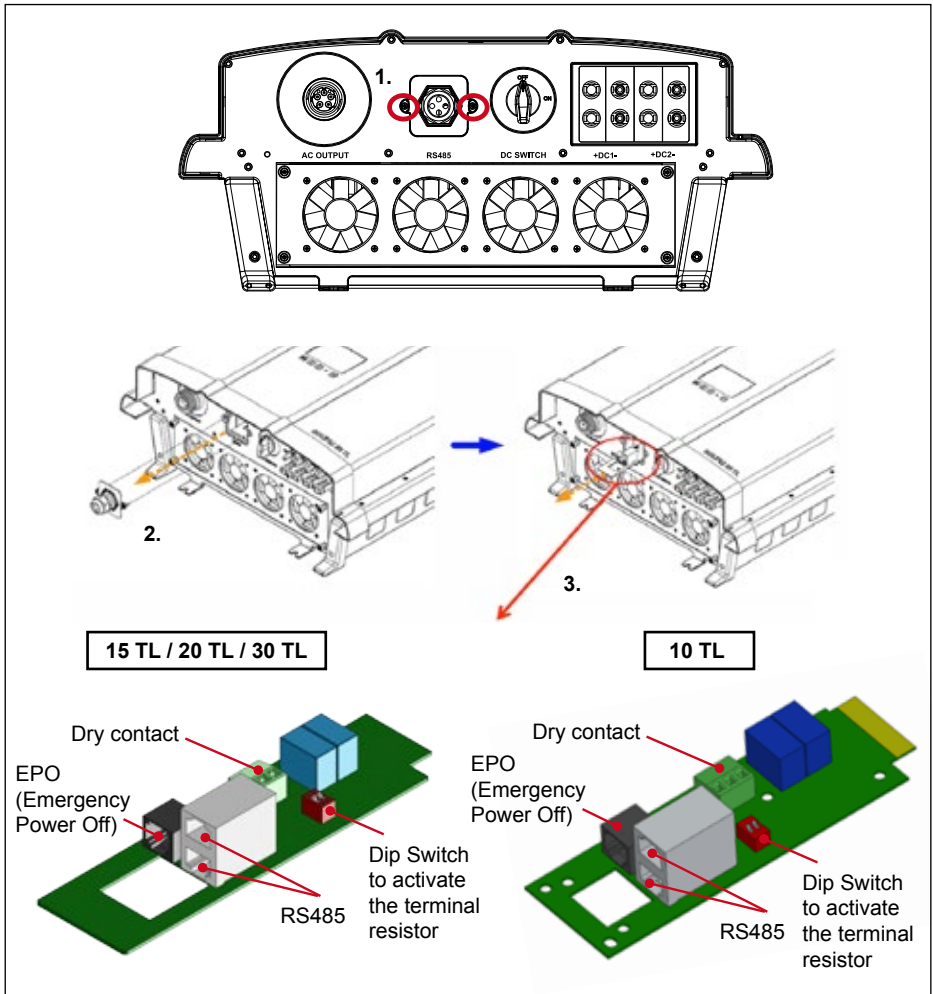

Figure 6.15.: Communication module removal
The communication module supports the communication functions with a computer, also provides 1 EPO (Emergency Power Off) and 2 sets of dry contacts. The parts of the communication module are shown in Figure 6.15. The function of each part is detailed in sections 6.5.1 ... 6.5.3.
1. Unscrew and remove the two Phillips screws highlighted above in Figure 6.15.